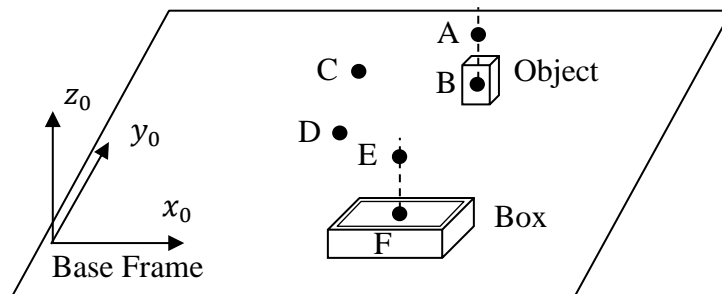

Figure 5: Waypoints for the QArm experiment.
- All the points needs to be reached by the robot are shown in Figure 5. The complete sequence of tasks are as follows: